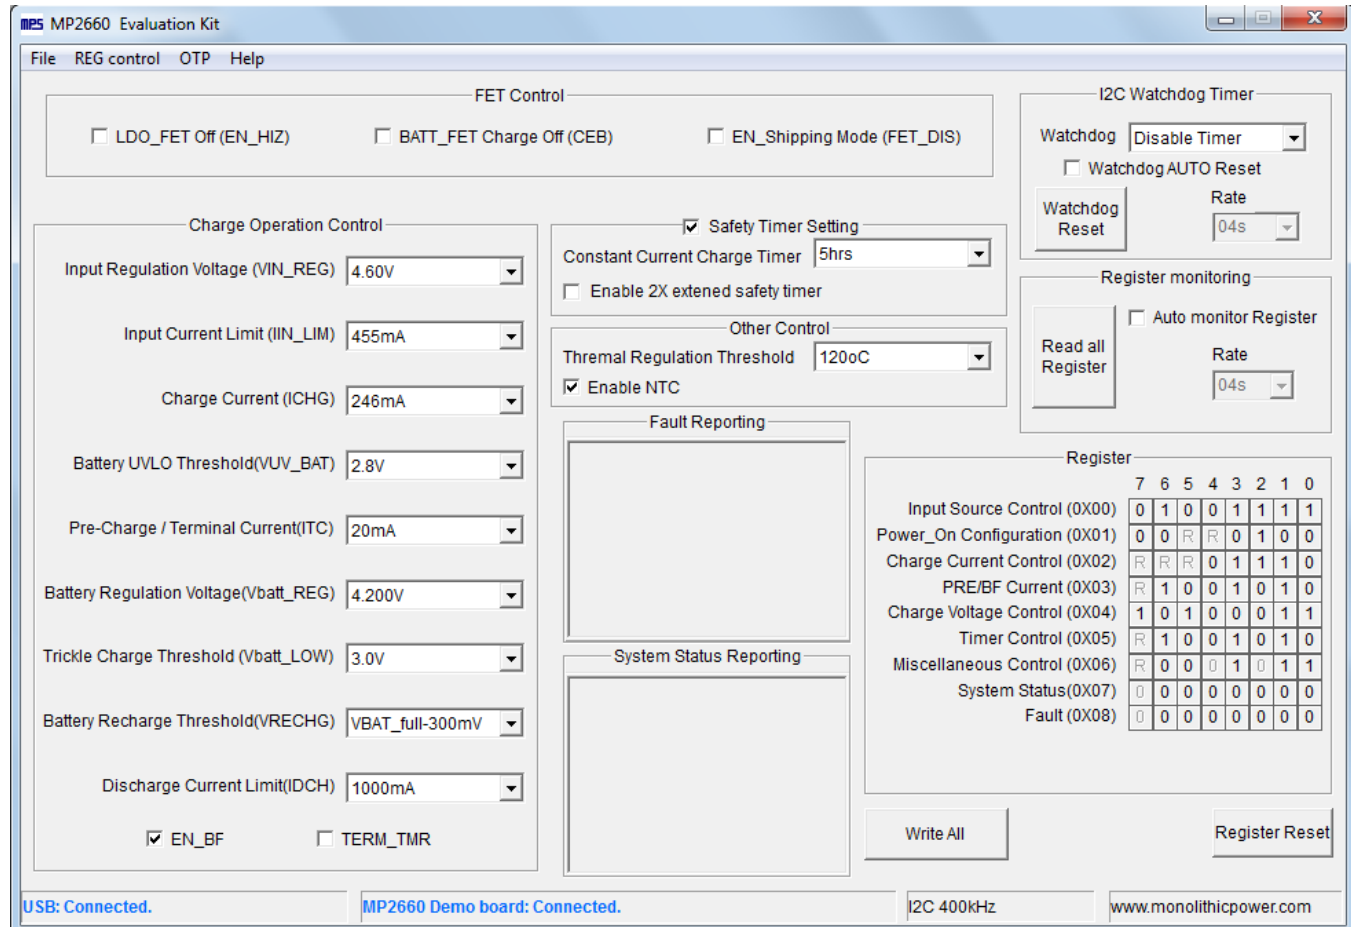

Figure 7: Appearance of USB and MP2660 EVB Board Show Connected
- If connection is successful, both the USB and MP2660 DEMO board statuses are "connected." (see Figure 7).
3. Click the "Read All Register" button to read the I²C register values and the default values are displayed (see Figure 7).